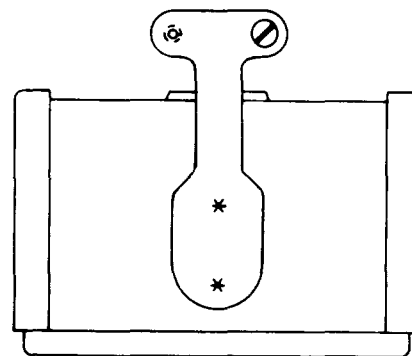

Fig. 10—KS-14672-Type Connector
2.06 KS-14672-Type: The KS-14672, L1 through L9, female connectors (Fig. 10) consist of molded, rectangular blocks, equipped with 21 or 34 gold-plated, brass terminals. Two screws are furnished for mounting the connectors. These connectors mate with the KS-14671-type connectors. For more information, see Table D.